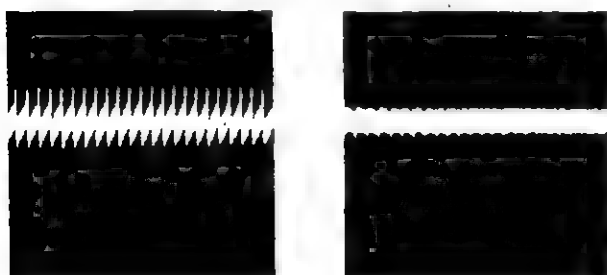

Fig. 4-6. — Waveforms Chroma Null Adjust
3. Adjust R3329 for minimum p-p signal (Fig. 4-6).